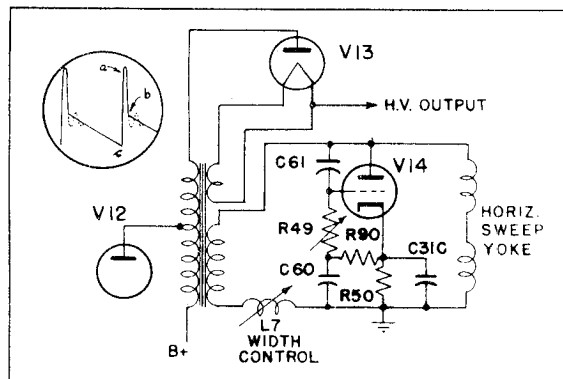

Fig. 6. Horizontal Sweep Output
6. HORIZONTAL SWEEP OUTPUT (See Figure 6)—The horizontal sawtooth voltage generated by the multivibrator, V11, is shaped and then amplified by a Type 807 tube, V12. The output of this tube is coupled to the horizontal deflection yoke through an impedance matching transformer, T9. An oscillatory voltage, as shown in the dotted line in the wave shape at the upper left of Figure 6, which results from the rapid retrace in transformer T9, is removed by the damping tube, V14. This tube is a triode Type 6AS7 and by its use the transient may be dampened, linearity controlled and the positive overshoot voltage retained for use in the high voltage supply. The linearity of the horizontal trace is controlled by varying the voltage wave shape applied to the grid of V14 by potentiometer R49. The horizontal size is varied by the adjustable iron core inductance, L7, which is in series with the output to the yoke.
8. HIGH VOLTAGE SUPPLY (See Figure 6)—The high voltage is derived by making use of the inductive "kick" voltage produced during retrace in the horizontal output transformer.
This "kick" voltage is shown in the wave shape shown as a-b in Figure 6. This voltage is generated in the primary winding and is further increased by an additional winding added to the transformer which connects to the rectifier tube plate of V13. The rectifier tube, V13, is a Type 8016 which derives its filament voltage from the horizontal sweep transformer T9 by a single turn around the transformer. Because of the high frequency which is rectified, a 500 mmf capacitor is more than sufficient for filtering purposes.